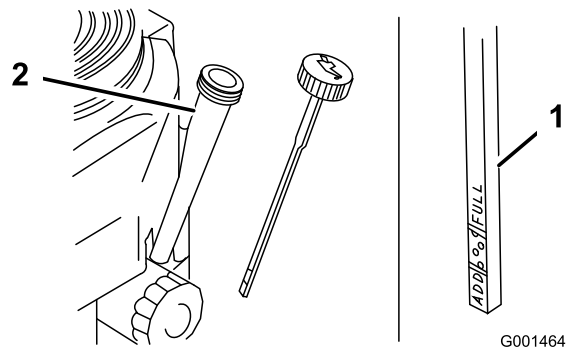

Figure 27
5. Unscrew the oil dipstick and wipe the end clean (Figure 27).
6. Slide the oil dipstick fully into the filler tube, but do not thread onto tube (Figure 27).
4. Clean around the oil dipstick (Figure 27) so that dirt cannot fall into the filler hole and damage the engine.
9. Slowly pour approximately 80% of the specified oil into the filler tube (Figure 27).